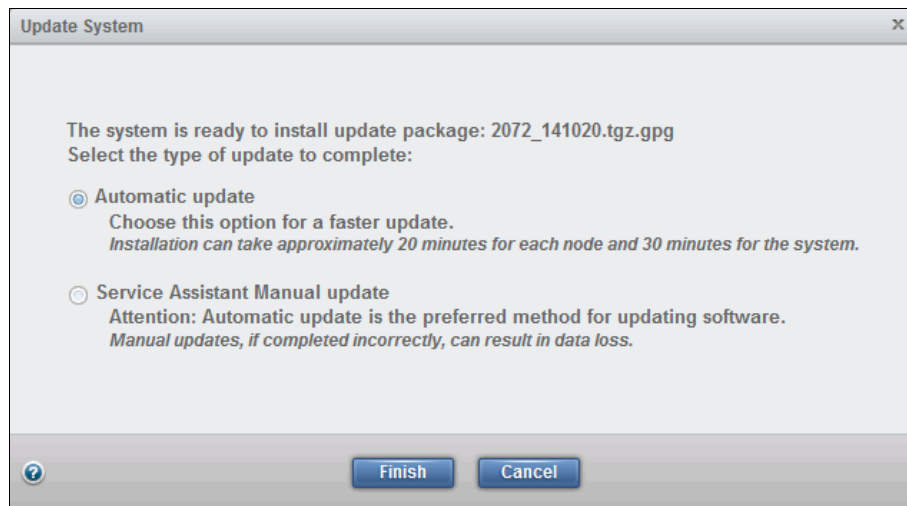

Figure 11-27 Update mode decision
4. Select whether an automatic or manual code update is required. The **Automatic update** option is the default and suggested choice. Figure 11-27 shows the update mode selection pane.